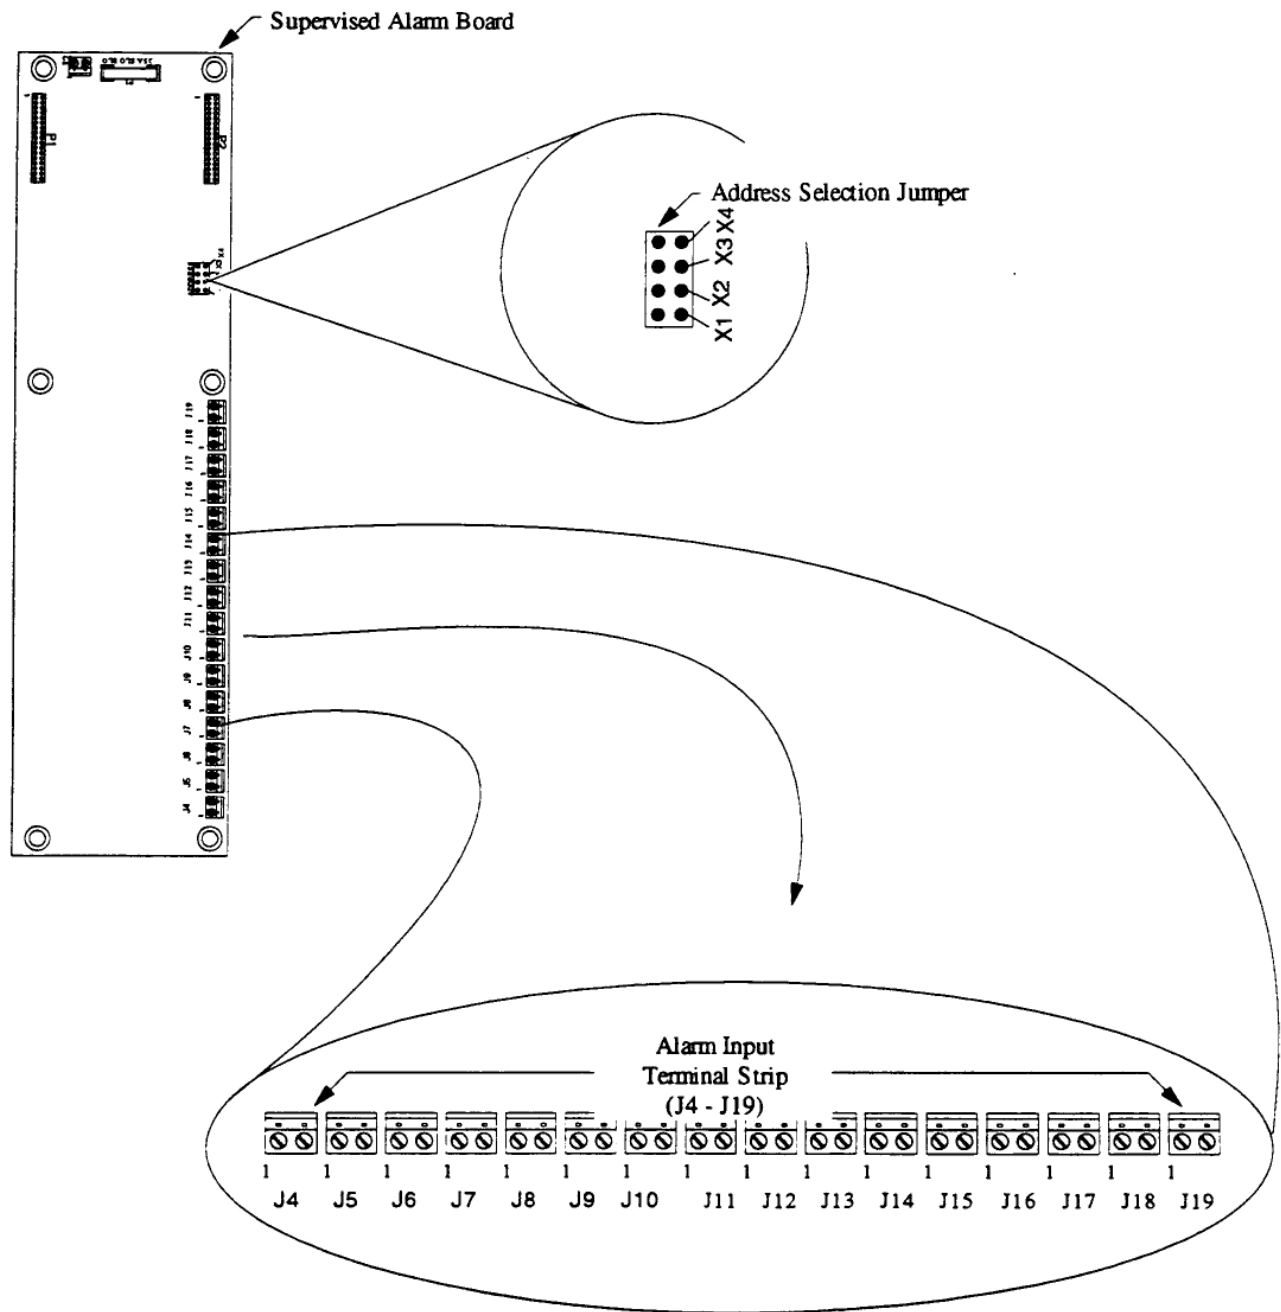

Figure 40 - Supervised Alarm Board Alarm Input Connections and Address Settings
The Supervised Alarm board provides terminal strips for 16 alarm inputs. The alarm inputs are connected to the Supervised Alarm board using connectors J4 through J19 (see Figure 40).
The Supervised Alarm board has an on-board Address Selection jumper that identifies the board to the Superterm (see Figure 40).
- 2) Determine the location of the Expansion I/O board in the order, *from right to left*, that the Expansion I/O boards are mounted (see Figure 40).